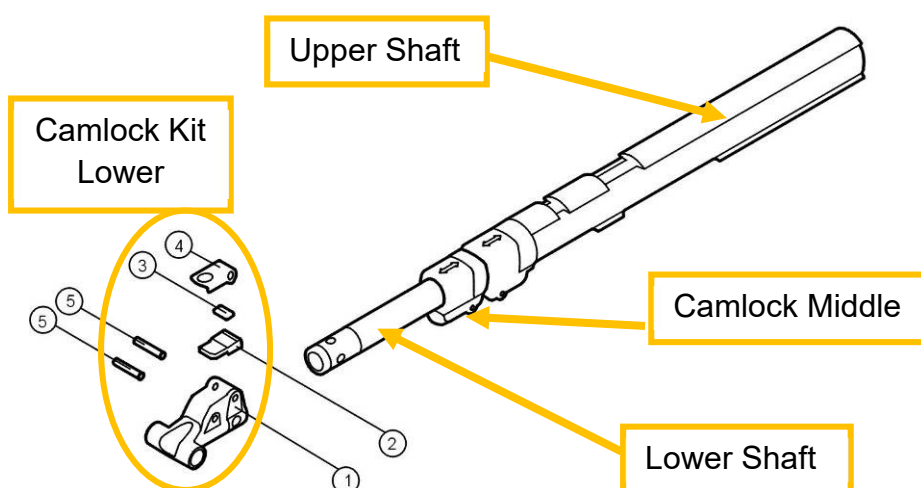

Figure 61: Camlock Lower.
- Using Figure 61 as a guide, use the 3mm hex driver (Allen key) or punch to push out the two pins (Part 5) from the camlock lower